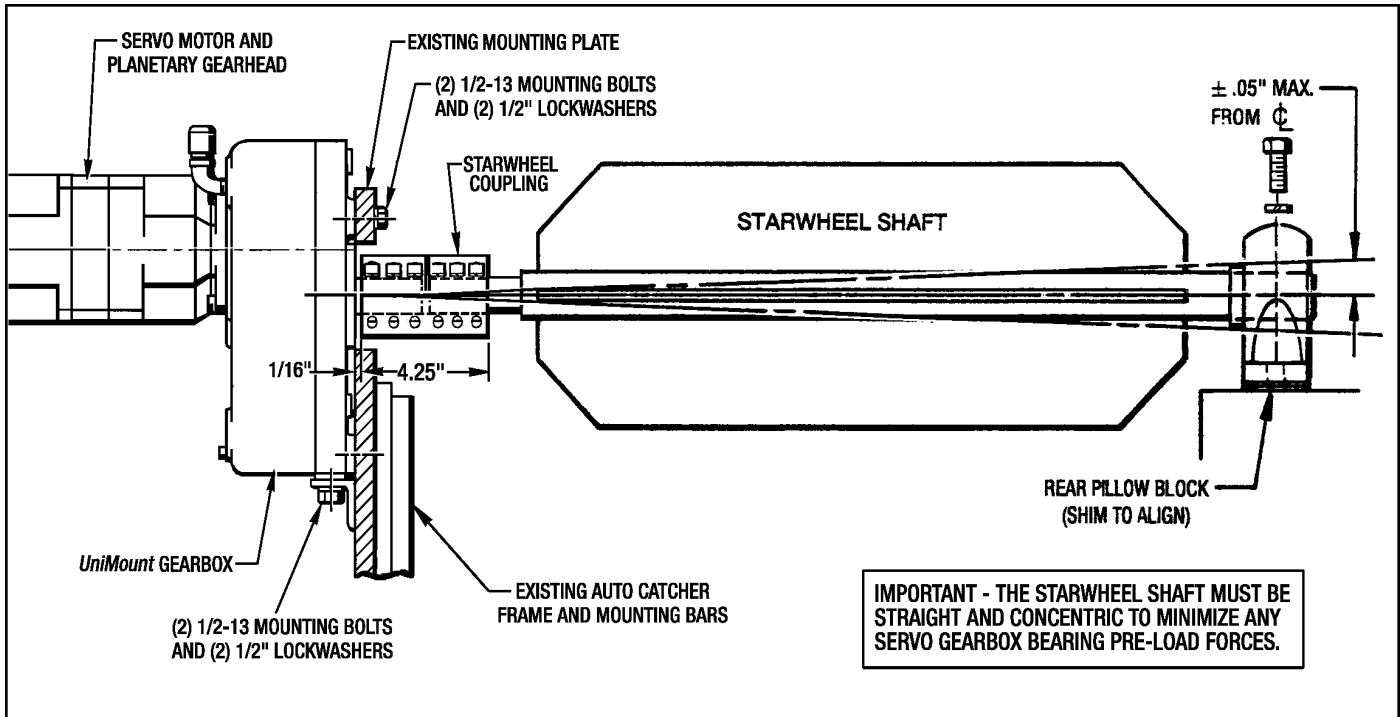

Figure 3.3 - Starwheel Shaft Alignment
6. Bolt the new *UniMount* Gearbox to the Auto Catcher frame or mounting plate with (4) 1/2"-13 Hex Hd. Bolts and (4) 1/2" Lockwashers as shown in Figure 3.3.
4. Rotate the Starwheel Coupling and Starwheel by hand. Check for bearing movement at the end of the shaft. Keep the shaft deflection less than .050" whenever possible for maximum bearing life in the *UniMount* Gearbox. (See *Figure 3.3* above.)